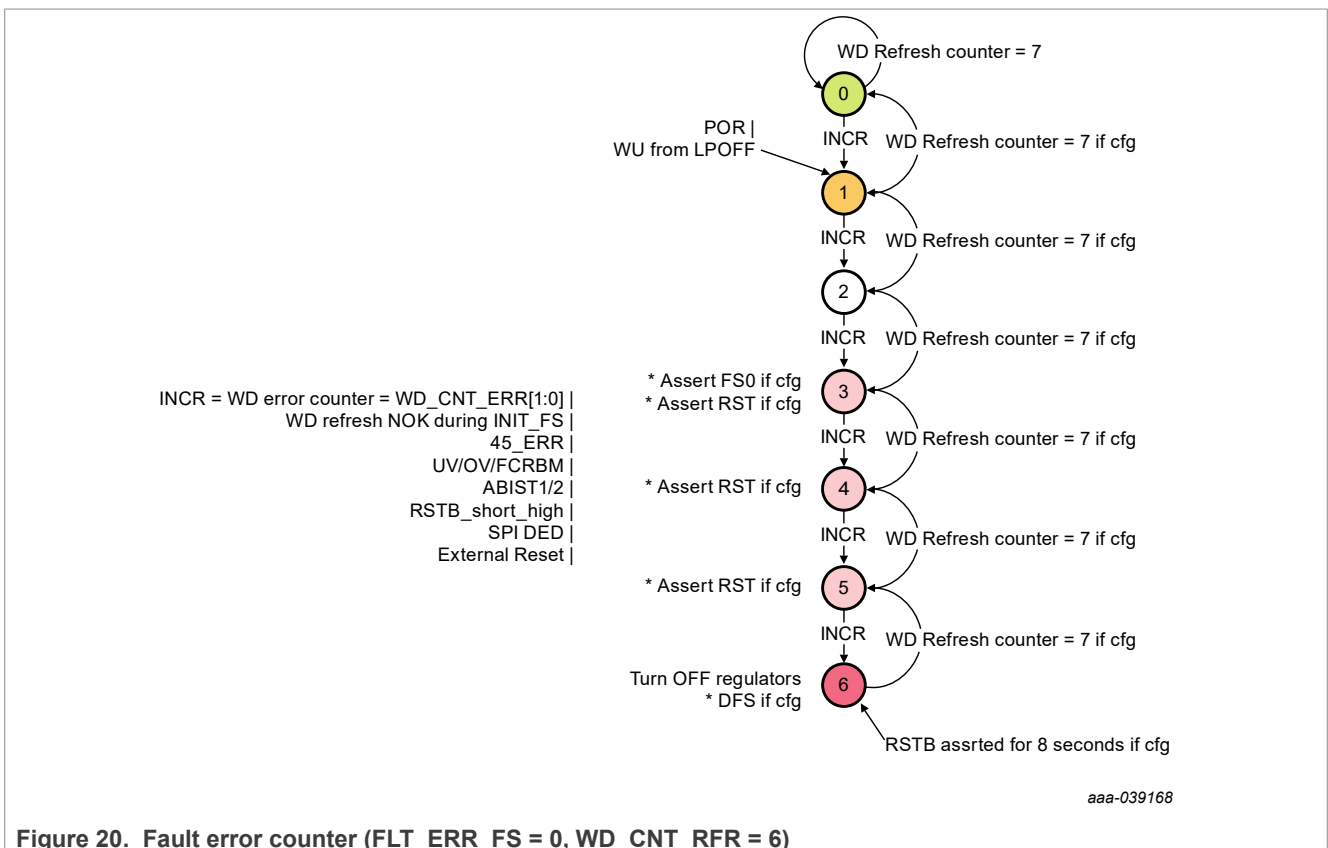

Figure 20. Fault error counter (FLT_ERR_FS = 0, WD_CNT_RFR = 6)
- FLT_ERR_FS = 0/Intermediate = 3; Final = 6 (Figure 20).